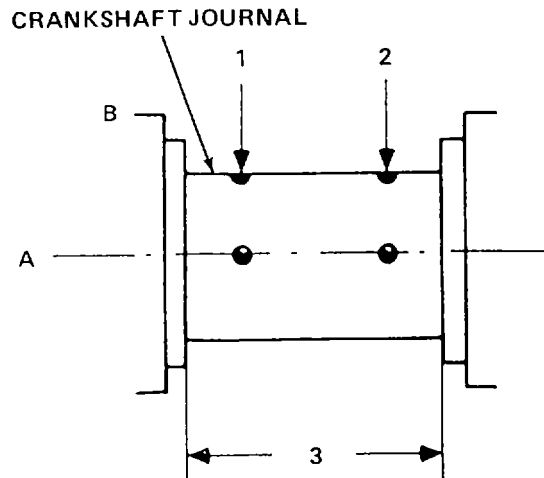

Figure 4-17. Crankshaft Journal
(1) Remove bolts (1), flat washers (2), main bearing caps (3), and bearing shell halves (4). Tag bearing halves and bearing caps. Note the side where slot (11) is located between bearing cap and bearing shell.
- (2) Remove crankshaft (5) from crankcase.
- (3) Remove and tag bearing shell halves (6) from crankcase.
- (4) Remove crankshaft gear (7) and matched pin (8).
- (5) Remove thrust ring halves (9 and 10).
b. INSPECT. (Figure 4-17)
- (1) Inspect crankshaft for cracks.
- (2) Inspect crankshaft journals for grooves, burrs, and discoloration. Replace damaged crankshaft.
- (3) Measure all crankshaft journals at points 1 and 2 in horizontal and vertical plane (as indicated by A and B). Record all measurements.
- (4) Measure width 3 of journal for locating bearing. Record measurements.
- (5) Compare recorded measurements with specifications in engine specification chart (Table 3-5). If crankshaft does not meet all specifications, replace crankshaft.